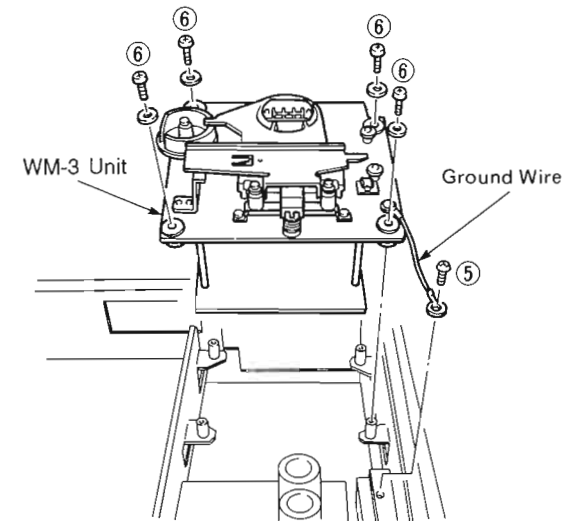

Fig. 3
- Remove screw (⑤) in Fig. 3, and then remove the Ground Wire.
- Remove 4 screws (⑥) in Fig. 3.
- ⑤のネジをはずし、アース線をはずす。(Fig. 3)
- ⑥のネジを4本はずす。(Fig. 3)